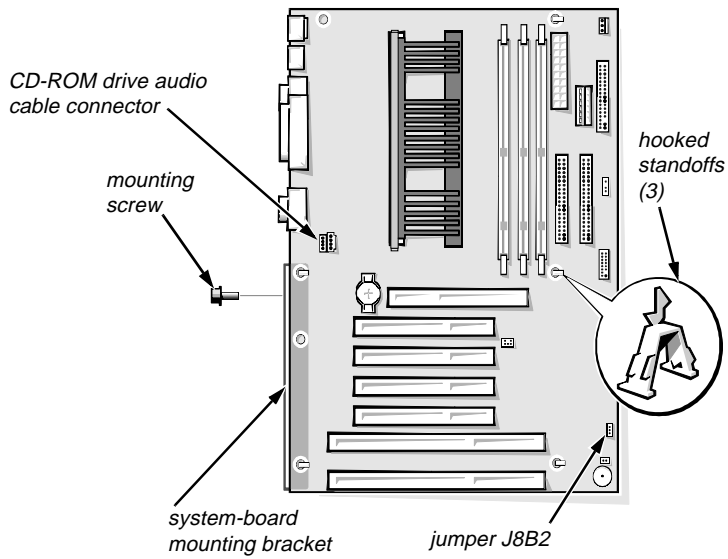

Figure 4. System Board Mountings (Hooked Standoffs)
6. If the system board is secured with hooked standoffs, remove the board-mounting screw from the back of the computer (see Figures 4 and 6). Slide the board slightly toward the front of the computer to clear the hooks. Skip to step 8.